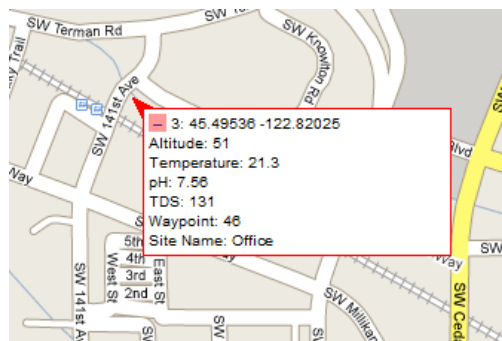

Figure 1 Water quality data in Google Maps
4. The default data-collection mode is Selected Events. In this mode, data will be collected on command rather than over time, making it easy to collect single points of data at specific sampling sites. See Figure 1 for sample results after mapping in Google™ Maps.
1. Mapping discrete points. Use this style for water quality or other environmental monitoring sites as shown in Figure 1.